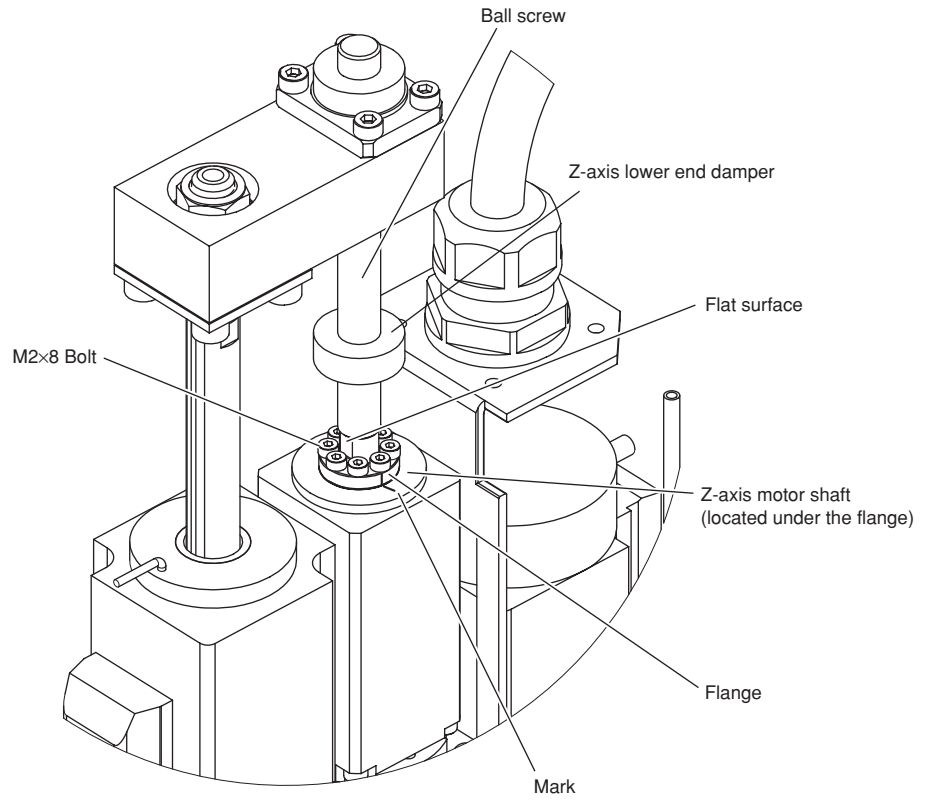

Fig. 4-16
- 8) Lift up the Z-axis lower end damper. If this is difficult, insert a screwdriver between the damper and the holder, and pry up the damper. (See Fig. 4-16.)